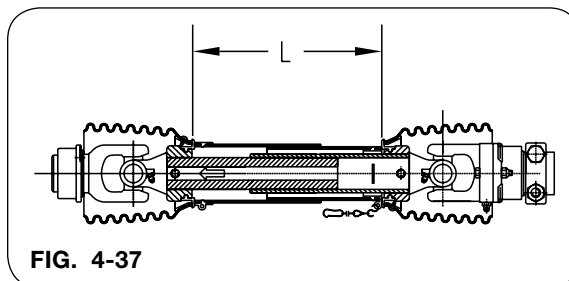

FIG. 4-37
1. Fully collapse PTO shaft and measure length "L" (FIG. 4-37).